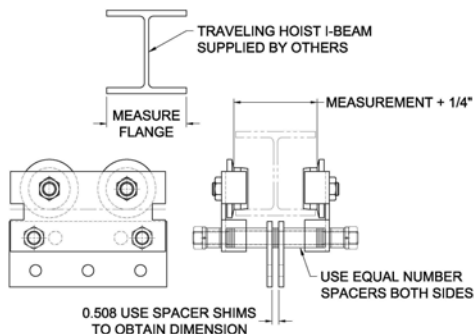

Figure 1
2. Assemble the Idler Trolley (Item 8) as shown in Figure 1. Measure the I-Beam flange width to determine the trolley wheel spacing for the assembly. The 2 ½” Spacers (Item 27), two of the Trolley Connection Plates (Item 23), and the hardware supplied in the Idler Trolley box will be required for this assembly. Install four thin shims from the trolley hardware onto each of the 1” diameter shaft pins. Install a trolley connection plate on each side of the shims. Measure the gap between the two trolley connection plates. This gap should be between 0.504” and 0.510”. Adjust shims if necessary to obtain the proper gap.